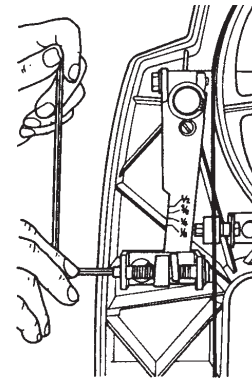

Fig. B-27
10. Tension the blade, turning the blade tensioning screw clockwise, as demonstrated in Fig. B-27. Notice that as you turn this screw, the red indicator bar moves, because it is actually the flat spring that tensions the blade. The blade tension is properly set when the edge of the bar disappears behind the scale at the marking for the blade width you're using.